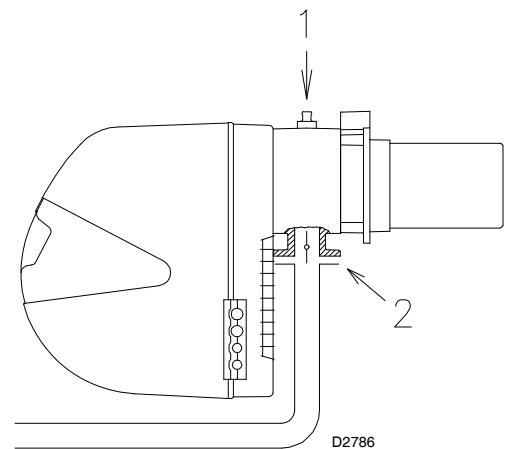

Fig. 19
Gas manifold pressure measured at test point 1)(Fig. 19), with:
- subtract the combustion chamber pressure from the gas pressure measured at test point 1)(Fig. 19);
- Gas pressure at test point 1)(Fig. 19) = 2.48" WC